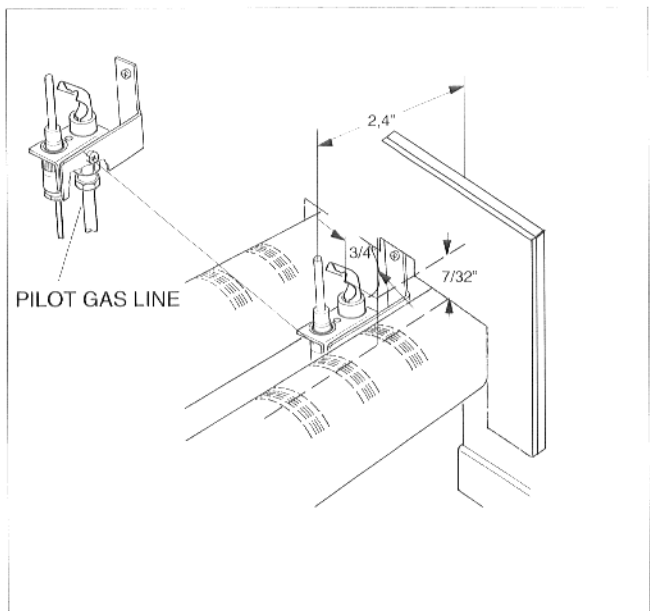

Fig.6: Pilot Assembly
18. Disconnect the pilot gas line from the pilot assembly, fig. 6.
22. Verify the pilot hood to main burner relationship shown in fig 6.